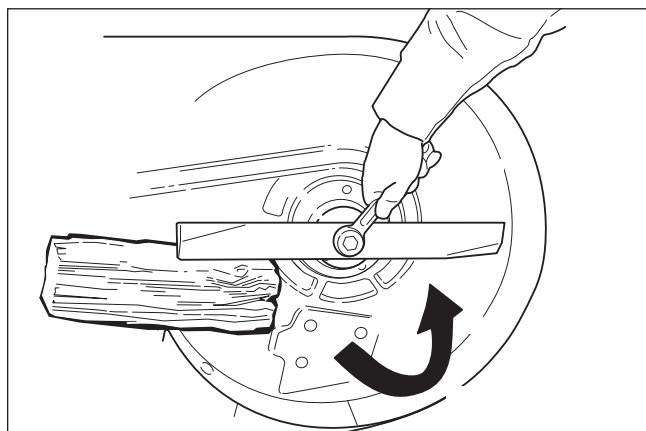

Figure 27. Loosening the Mower Blade for Removal
1. To remove the mower blade, use a 1" wrench on the flats of the spindle shaft and remove the mower blade mounting bolt with a 15/16" wrench (Figure 27).